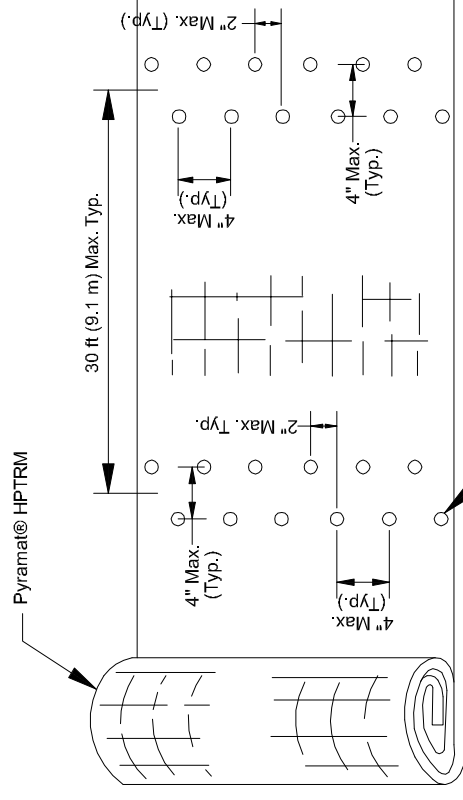

FIGURE 7: SIMULATED CHECK SLOT DETAIL
- For slope heights greater than 45 ft (13.7 m), install simulated check slots per Figure 7. This method includes placing two staggered rows of pins on 4 in (100 mm) centers at 30 ft (9.1 m) intervals (see Figure 7) or across the midpoint of the slope height for slope heights less than 60 ft (18.2 m).